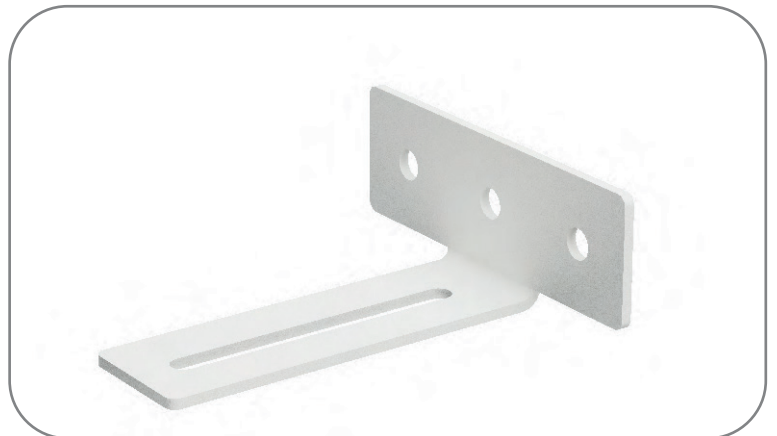

Figure 7.6
**STEP 6:** Use the Fixing Bracket shown in Figure 7.6 to secure the LBP to the wall.